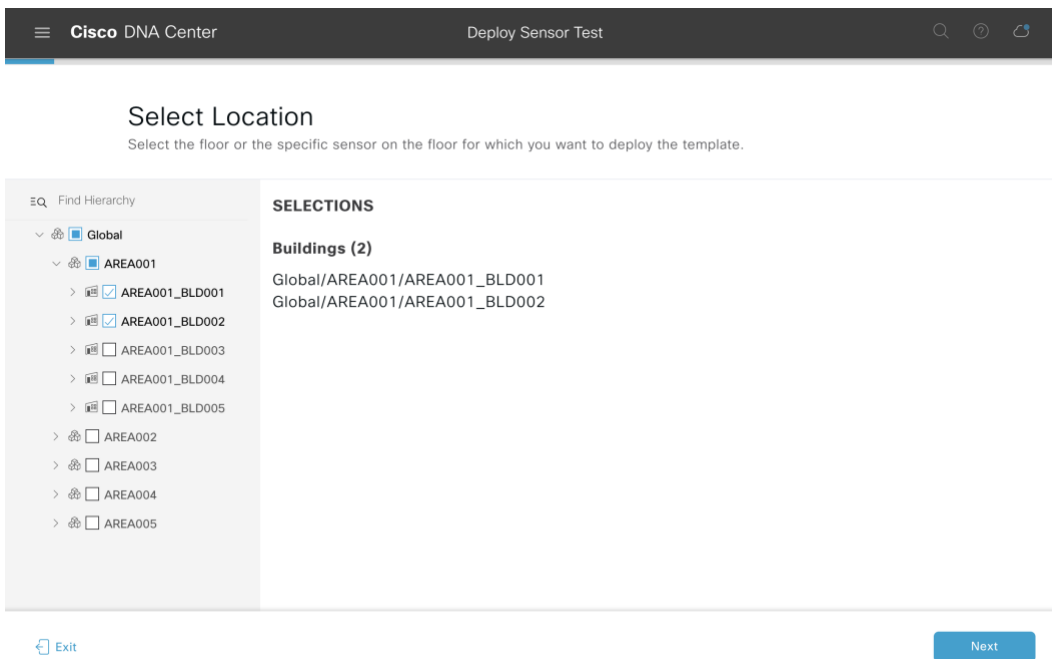

Figure 76.
- t. From the sites hierarchy on the left, select the site(s) to deploy your test template to (Figure 76.).